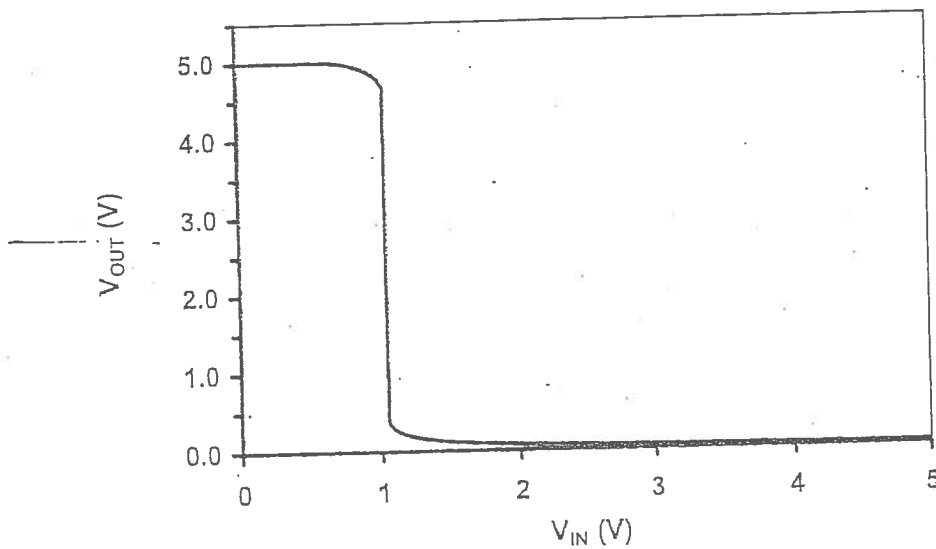

Figure 8.41.
b. The SPICE results are shown in Figure 8.41.